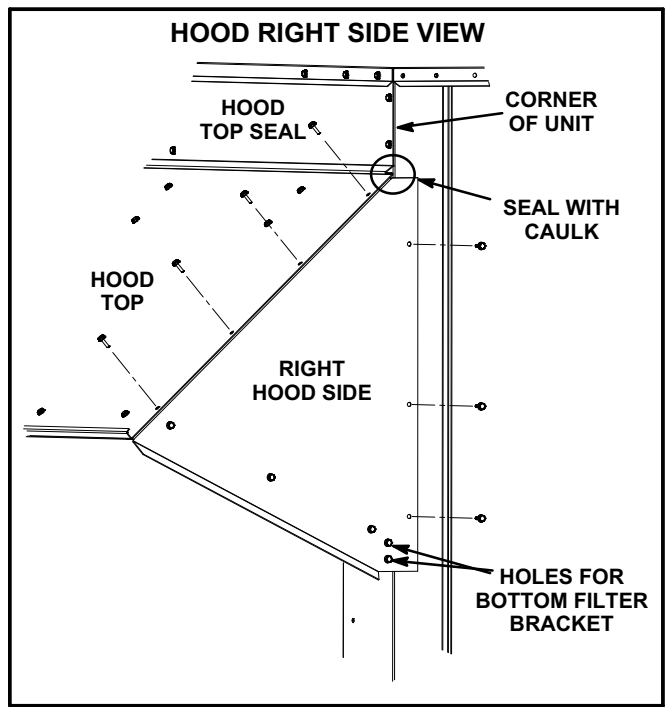

FIGURE 26
- 13- Secure the right hood side to the hood top. See figure 26. Do NOT secure the right hood side to unit.
- 16- Secure the right hood side to the unit as shown in figure 26.